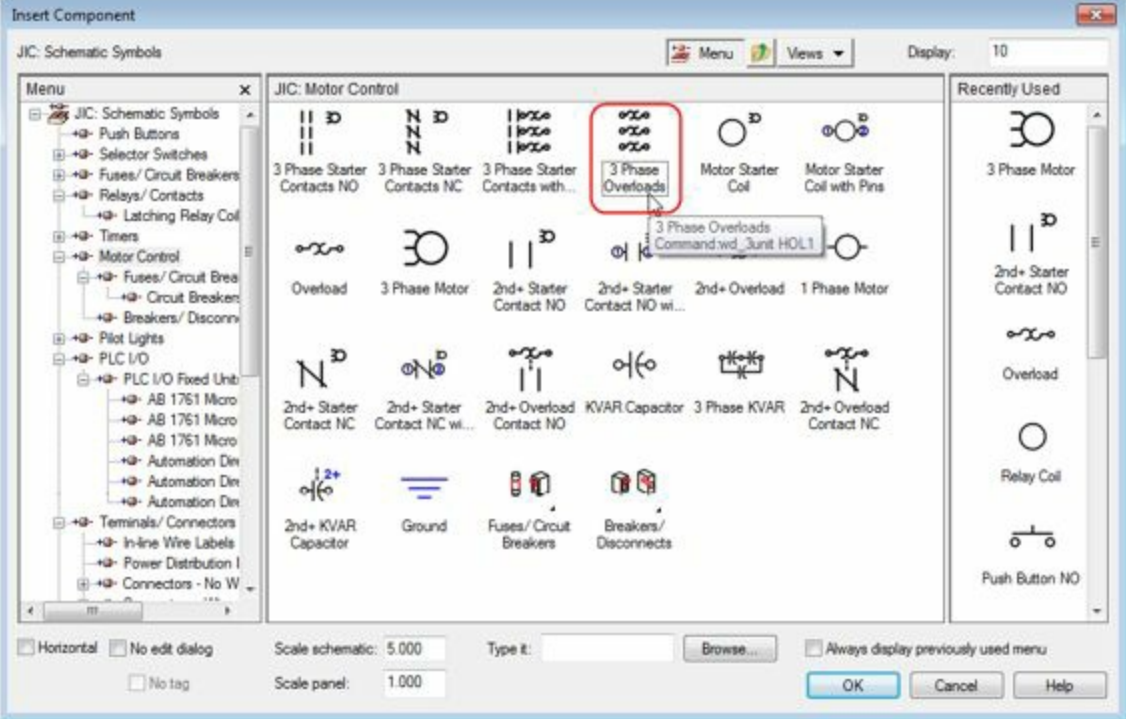
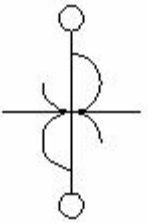

Figure-15. 3 Phase Overloads component
Figure-16. Icon attached to the cursor
- Click on the **Motor Control** category and select the **3 Phase Overloads** icon from the dialog box; refer to Figure-15. The icon will get attached to the cursor; refer to Figure-16.